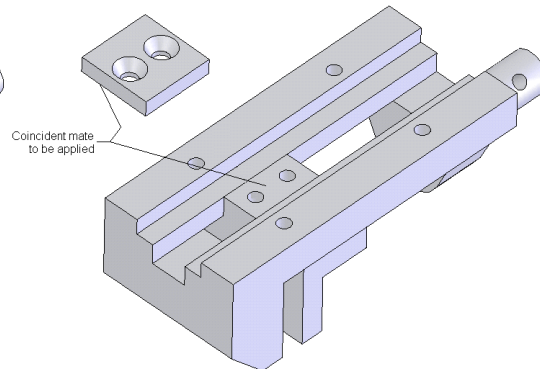

Figure 10-70 Faces to be selected to apply mate
5. Move the Clamping Plate by dragging. Now, apply the **Coincident** mate between the faces of the Clamping Plate and the Vice Jaw, as shown in Figure 10-70.